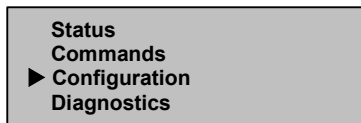

Figure 22: Main menu
1. On the main menu, scroll to Configuration. (See Figure 22.)